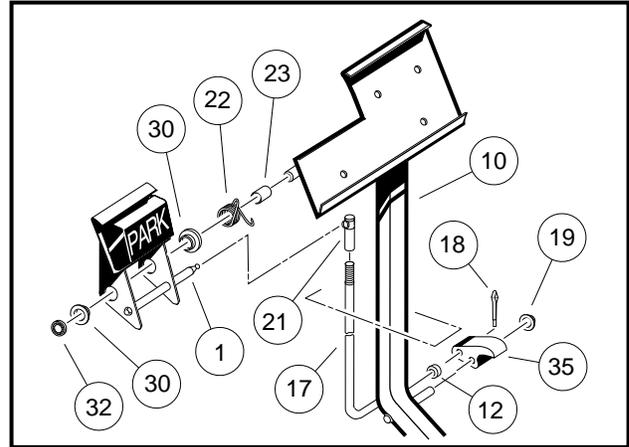
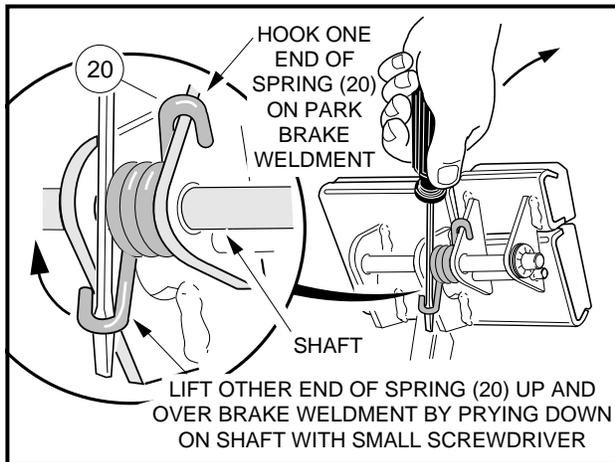

Figure 5-14 Park Brake Assembly
Figure 5-15 Attach Torsion Spring
- A NEW PUSH-ON NUT (19) (**FIGURE 5-14, PAGE 5-11**) MUST BE USED WHEN REASSEMBLING THE PARK BRAKE.
- 3.2. To remove the park brake pedal (1), remove the push-on retainer nut (32), disconnect the torsion spring (22) (**Figure 5-14, Page 5-11**) and slide the pedal off of the shaft. **See following NOTE.**
- A NEW PUSH-ON NUT (32) (**FIGURE 5-14, PAGE 5-11**) MUST BE USED WHEN REASSEMBLING THE PARK BRAKE.
1. From the bottom side of the floorboard, insert the park brake rod (17) through the brake pedal assembly opening as shown (**Figure 5-14, Page 5-11**). Then install the park brake pawl (35) onto the shaft on the brake pedal assembly weldment (10) and also the park brake rod (17) into the park brake pawl (**Figure 5-14, Page 5-11**).
2. Install the push nut (19) onto the park brake pawl shaft (**Figure 5-14, Page 5-11**).
3. Install the spacer (23) and torsion spring (22) on the park brake pedal shaft on the brake pedal weldment (**Figure 5-14, Page 5-11**).
4. Install the two bushings (30) in the park brake pedal and position the park brake pedal on the shaft on the brake pedal assembly weldment (**Figure 5-14, Page 5-11**). Then attach the ends of the torsion spring to the park brake pedal and to the brake pedal weldment as shown (**Figure 5-15, Page 5-11**).
5. Install the push nut (32) on the park brake pedal shaft (**Figure 5-14, Page 5-11**).
6. Connect park brake rod (17) ball joint to ball stud on park brake pedal assembly (**Figure 5-14, Page 5-11**).